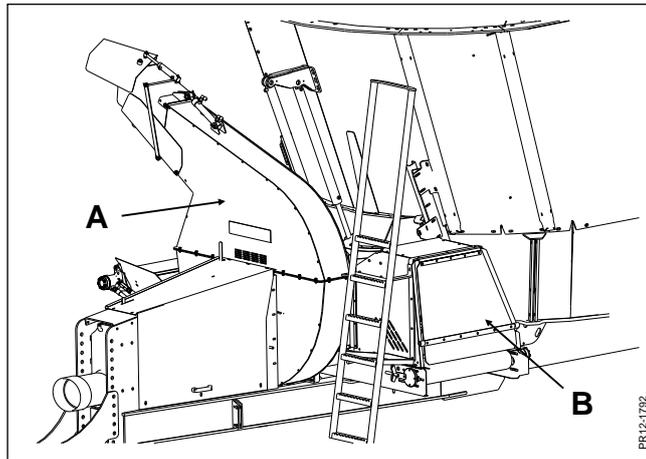

Fig. 2-1
**Fig. 2-1** KONGSKILDE's solution is very unique and has been patented. The solution is unique because both the straw bedder (A) and the cross conveyor for feeding (B) are placed at the front. This guarantees a perfect view.